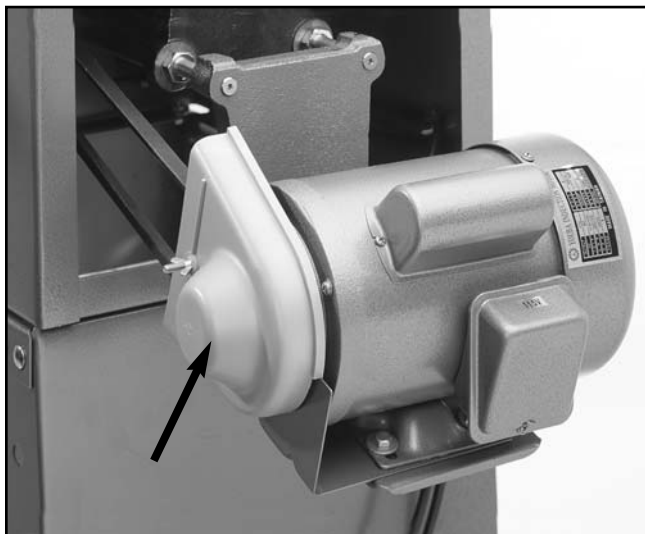

Figure 22. Attached pulley cover.
15. Using the supplied wing nut and mounting bolt, secure the pulley cover over the pulley and V-belt as shown in **Figure 22**.